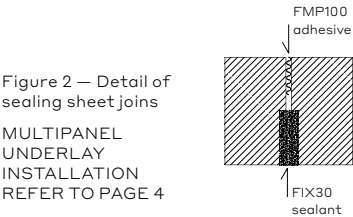

Figure 2 — Detail of sealing sheet joints
- / Apply a continuous bead of FIX30 sealant as shown in Figure 2 below and blade off creating a 50mm band over the join of the two sheets.